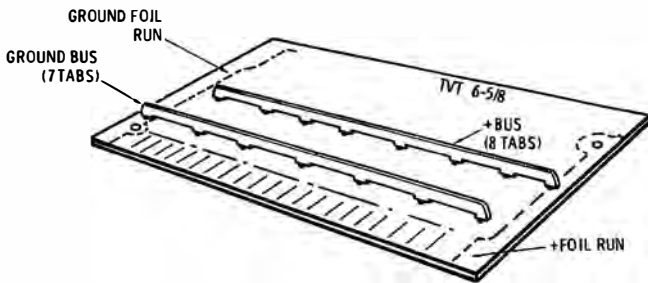

Fig. 4-9. Bus strips are located on the foil side as shown.
- Refer to Fig. 4-9 for the location of the ground bus. It goes nearest the connector. Make sure the ground bus is flat against the board and perfectly vertical and centered from end to end on the pads it has to contact. Tack the bus in place at the ends only.
- Similarly prepare the pads for the eight-tab + bus by first tinning and then removing solder. Tin both ends of the + bus and tack in place as shown in Fig. 4-9.